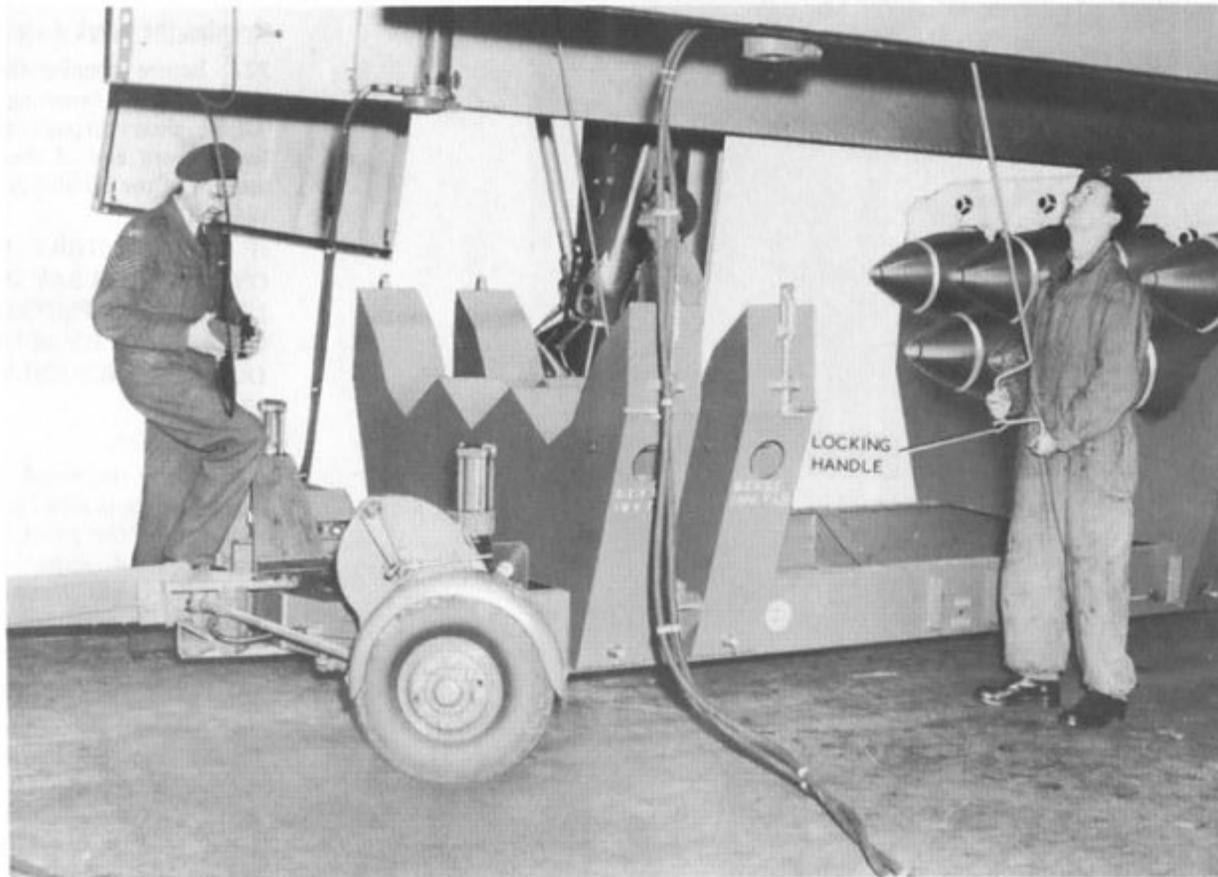

Fig 5 Screwing home the carrier wedge plates
17. After the carrier has been fully raised and pre-tensioned insert the locking handles in the bell-mouthed guides (Fig 5) of the wedge plate housings, and fully screw in the wedge plates. This procedure operates micro-switches within the hoisting and suspension units and completes the carrier locking circuit.